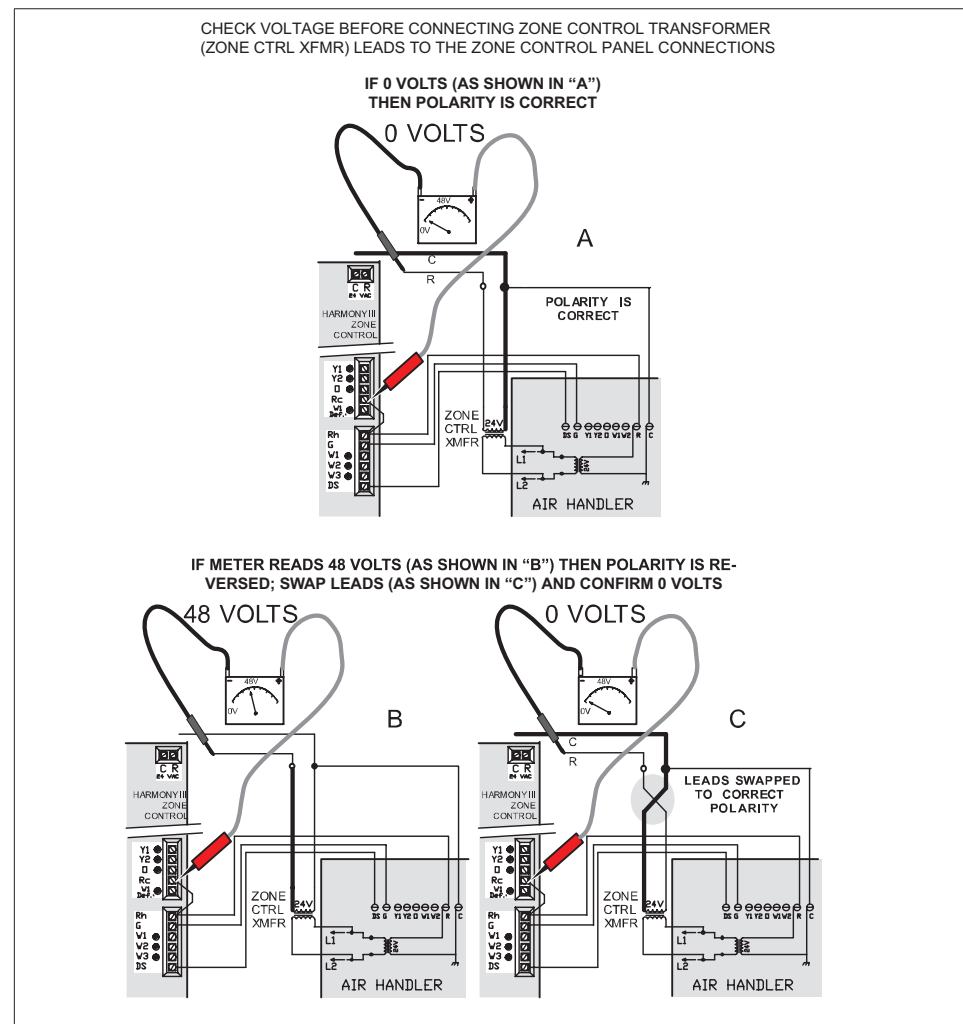

Figure 14. Confirming Transformer Phasing (Polarity) is Correct
- » if 0 volts (A, "Figure 14. Confirming Transformer Phasing (Polarity) is Correct" on page 14) then polarity is correct; connect the leads to zone control C and R as shown.
- » if 48 volts (B, "Figure 14. Confirming Transformer Phasing (Polarity) is Correct" on page 14) then polarity is reversed; swap leads as shown and confirm 0 volts (C, "Figure 14. Confirming Transformer Phasing (Polarity) is Correct" on page 14); connect the leads to zone control C and R as shown.